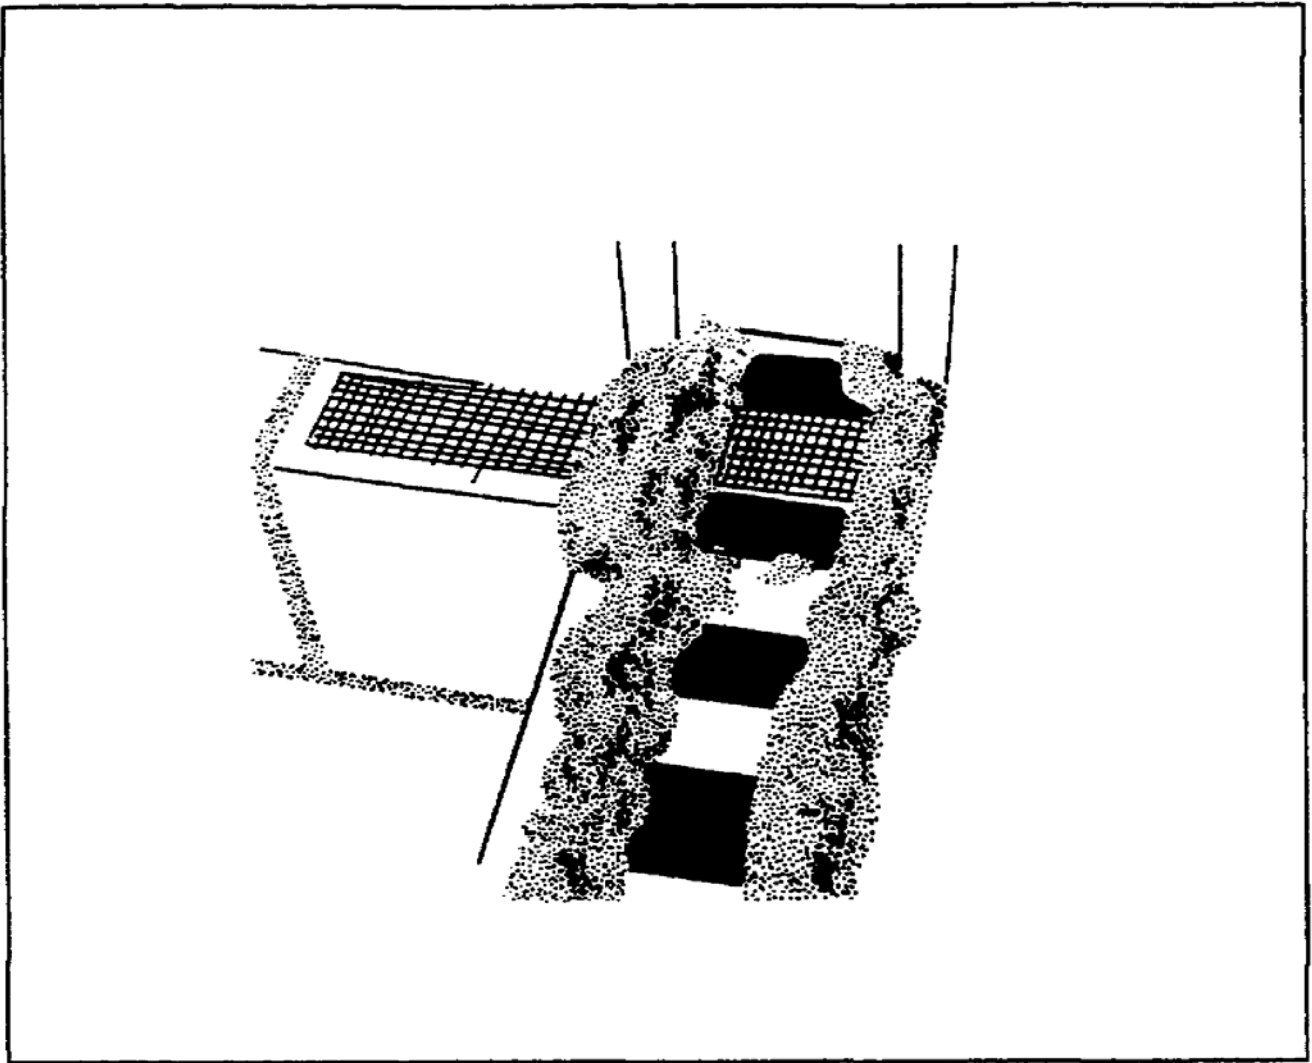
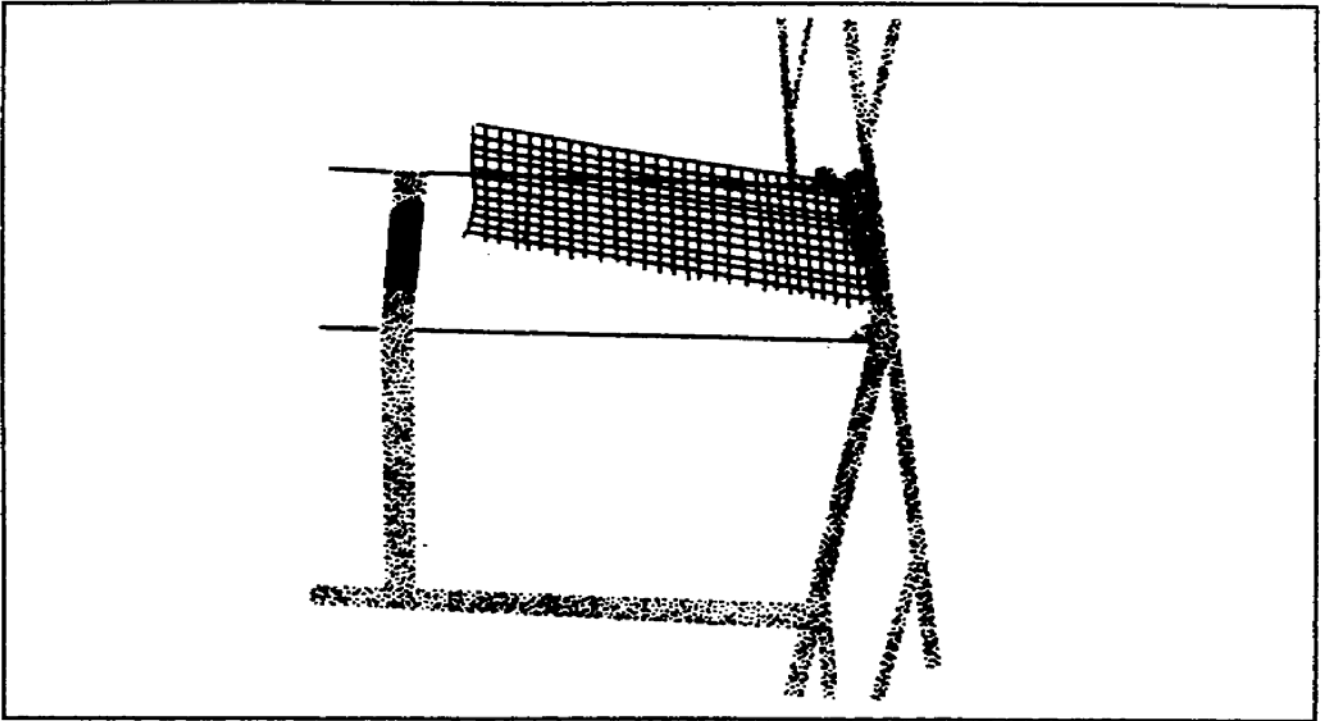

Figure 2-25. Metal lath spanning the joint
Figure 2-26. Metal lath built into the first wall
**2-24. Nonbearing Walls.** To tie nonbearing walls to other walls, place metal-lath strips across the joints in alternate courses between the two walls (Figure 2-25). If one wall is constructed first, build the metal laths into the first wall. Later, tie the metal laths into the mortar joints of the second wall and construct control joints where the two walls meet (Figure 2-26, page 2-26).